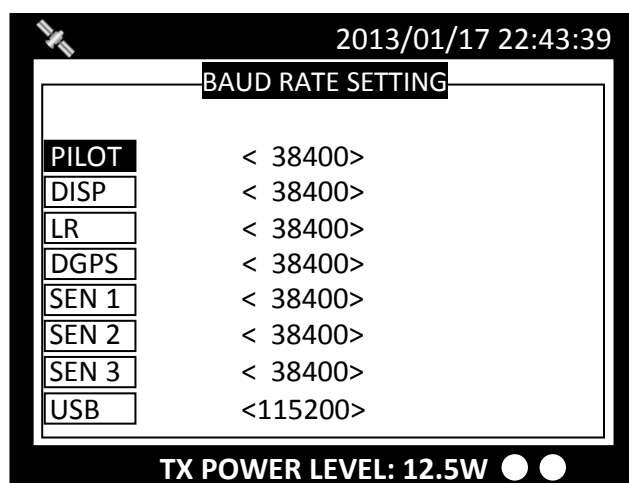

Figure 72 Baud Rate Setting
**Sensor Configuration** provides user to set baud rates for sensor ports and USB port. Turn **knob** to select a port to modify and press **knob** to change the specified port baud rate. Turn **knob** to change the desired rate of sensor ports between 4800/9600/19200/38400. USB port can be configured to any baud rate of 4800, 9600, 19200, 38400, 57600 or 115200. Default baud rates of the ports are shown in figure 72 below.